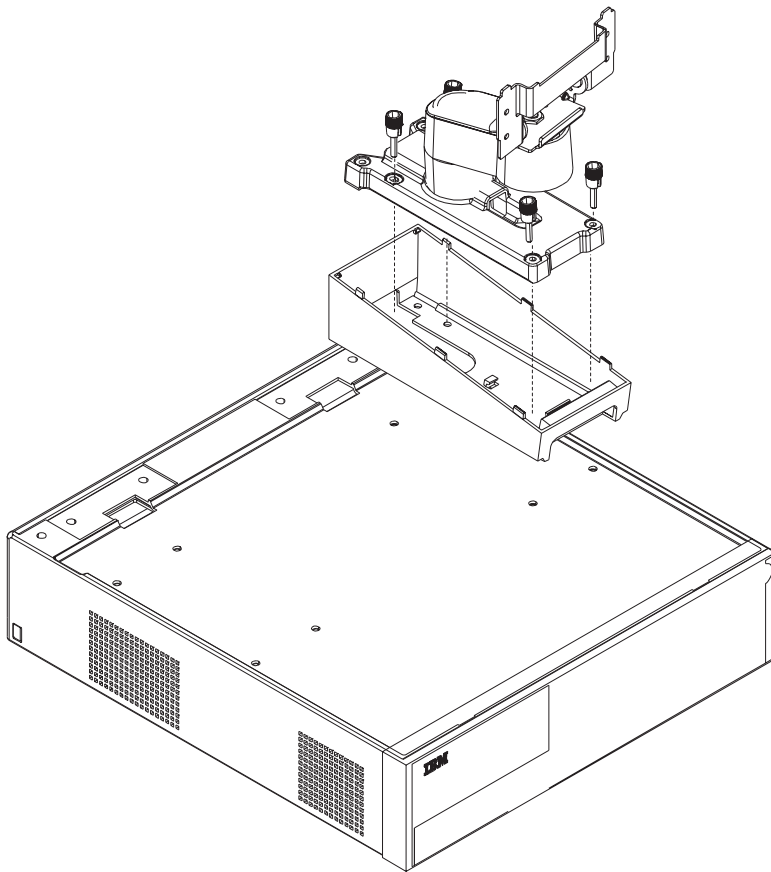

Figure 20. Securing the arm assembly to the SurePOS 720, 740, 780
4. Place the arm assembly on the system unit as shown in Figure 20. Insert and tighten the four thumbscrews as shown.